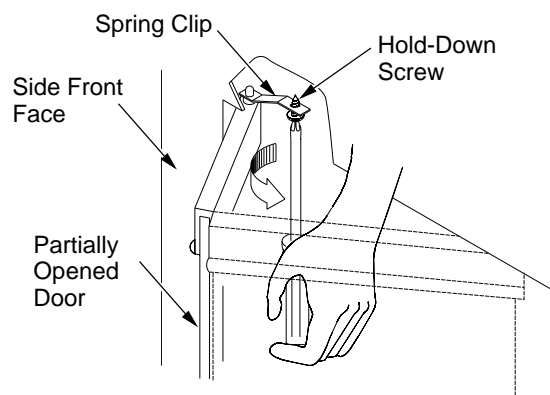

Figure 34 - Adjusting Glass Doors
- To adjust the doors, slide them partially open. Using a screwdriver, loosen the hold-down screws in the spring clip (see Figure 34) and pivot plate.